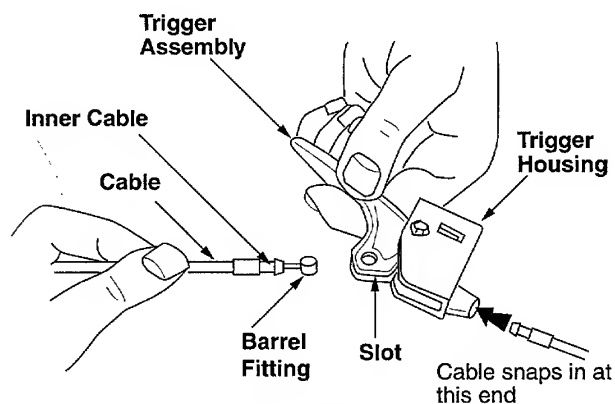

Figure 11
- Place the cable barrel fitting into the hole in the trigger. You can find the triggers and associated hardware in group H of the hardware pack (on page 6). Pull on the cable and rotate it around the bottom of the trigger, with the inner cable in the slot, until the cable end can be pushed into the trigger housing and snapped tight. See Figure 11.